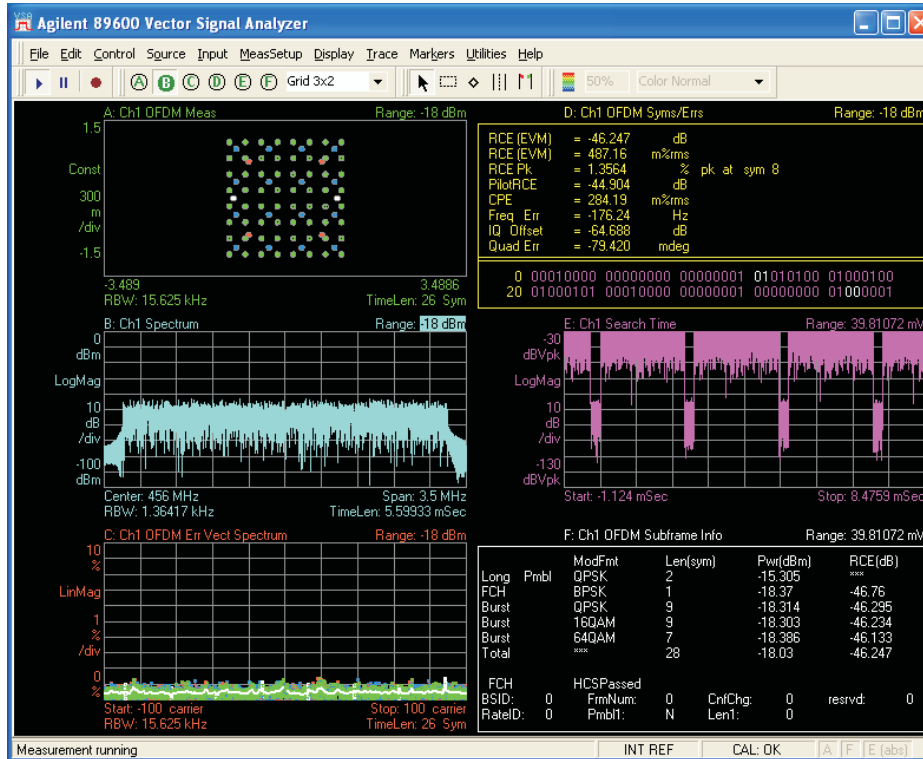

Figure 3. TRF1115EVM Performance
- Verify that EVM performance is less than -40 dB; see Figure 3.